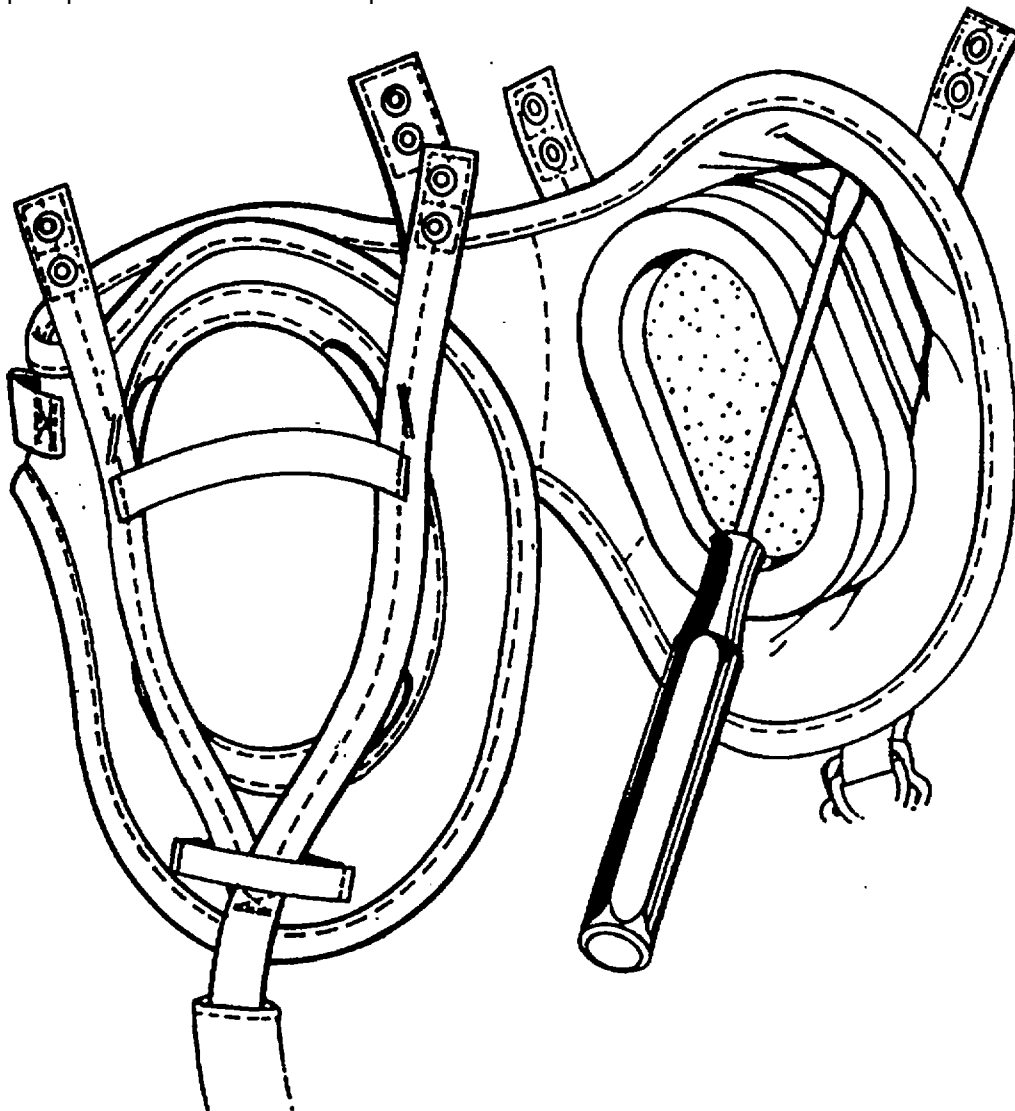

Figure 3-7. Removal of Earcup
4. Insert small flat-tip screwdriver or awl between earcup and retention assembly (see Figure 3-7) to create a small opening. Working around edge of earcup, carefully use screwdriver or awl to lift retention assembly away from earcup tabs. Remove earcup from retention assembly.